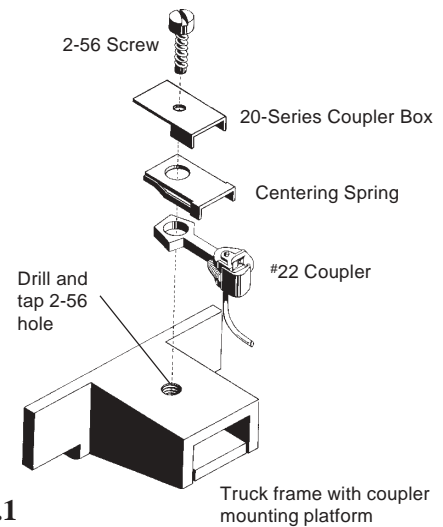

Fig.1
3. Assemble the #22 Coupler as shown in Fig.1. Mount it on top of the coupler mounting platform with a 2-56 screw.